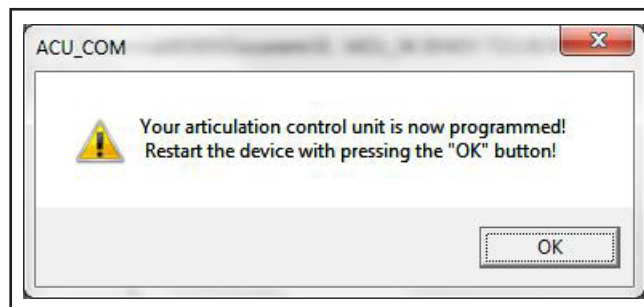

Figure 9 - Upload Completed and ACU Restart Window
- 1.16. When the upload is finished, a pop-up window will appear to confirm that the unit is now programmed and the ACU that should be restarted. See Figure 9. Click OK.